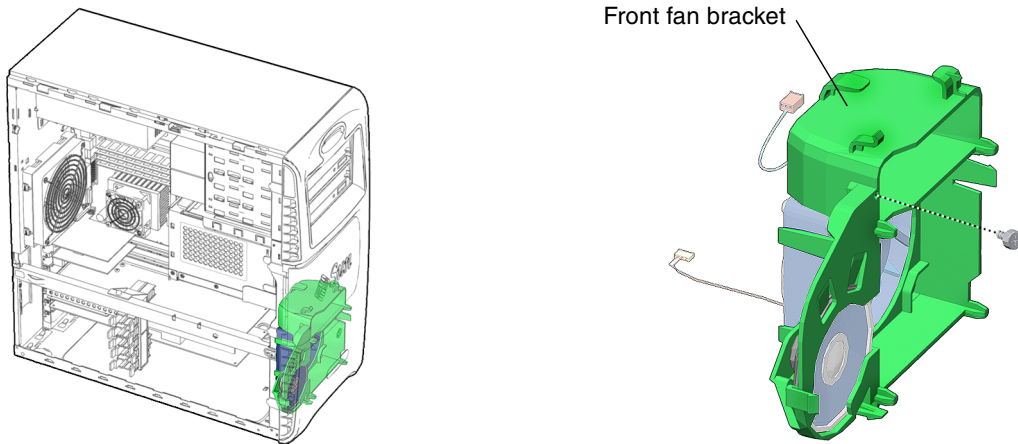

FIGURE 13-37 Front Fan Bracket Location and Identification
3. **Locate the front fan bracket (FIGURE 13-37).**
2. Locate where the front fan bracket is to be installed (FIGURE 13-37).